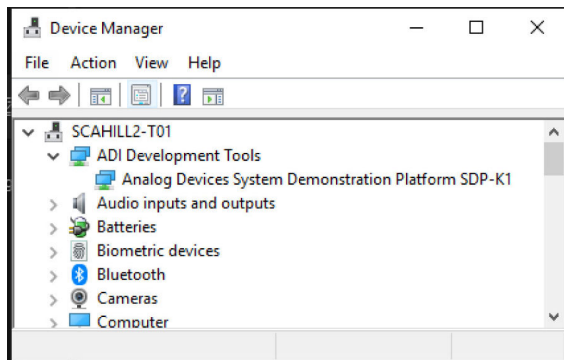

Figure 17. Device Manager Window
2. Navigate to the **Device Manager** window on the PC (see Figure 17).
4. The **Computer Management** window appears. From the list labeled **System Tools**, click **Device Manager**. If the SDP-K1 driver is installed and the board is properly connected to the PC, in the **Device Manager** window, **Analog Devices System Demonstration Platform SDP-K1** appears in the **ADI Development Tools** drop-down list, as shown in Figure 17.